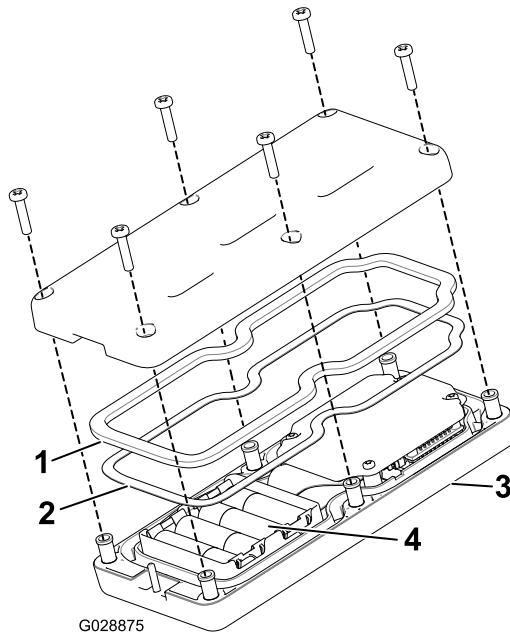

Figure 21
2. Install the batteries into the terminal cradle observing proper polarity. The cradle is embossed with polarity markings for each terminal (Figure 21).
3. Ensure that the steel gasket and rubber seal are seated in the channel in the handheld remote and set the back cover in place (Figure 21).
4. Secure the cover with 6 screws (Figure 21) and torque them to 1.5 to 1.7 N·m (13 to 15 in-lb).